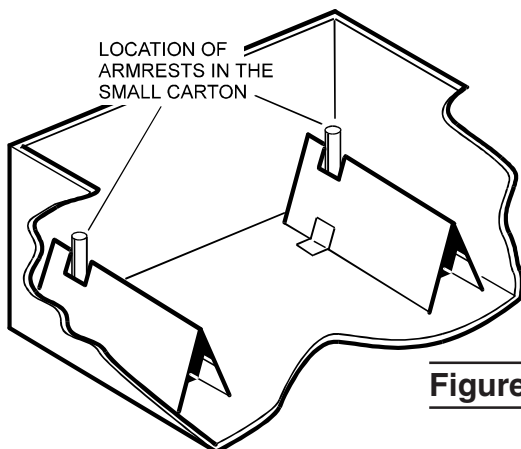

Figure 12
1. Unpack the armrests and discard all packing materials. The armrests are secured to the bottom of the small carton (Figure 12).